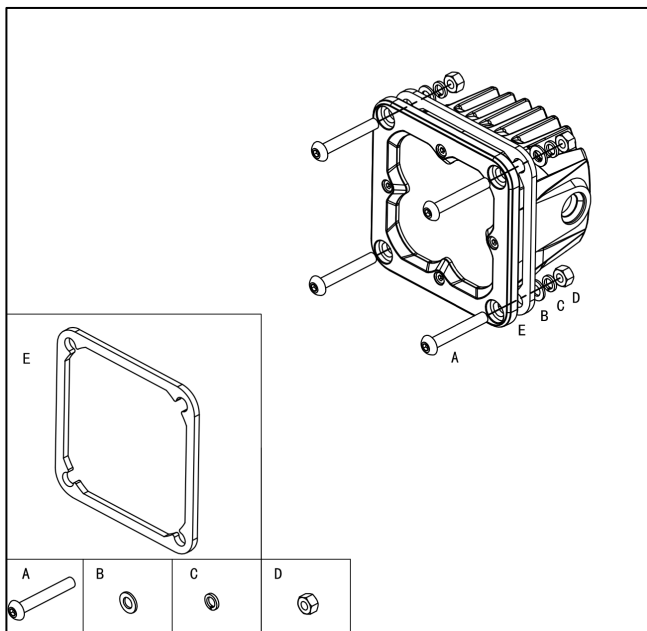

FIG 1
8. Attach the gasket to the backside of the pod flange. Secure the pod using the included hardware. See diagram FIG 1.